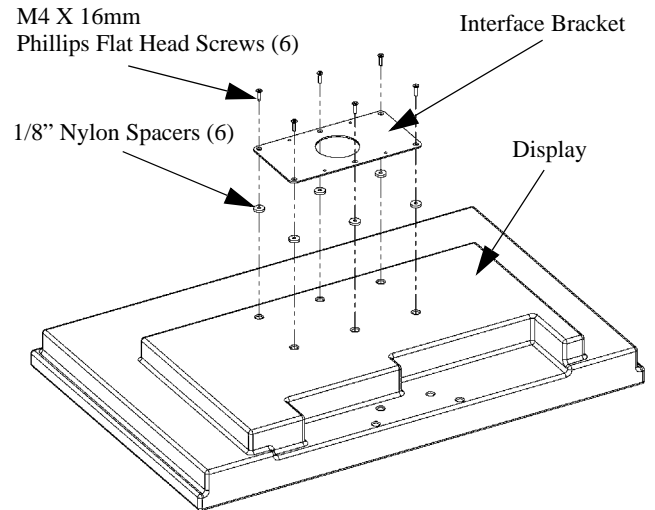

Figure 7. Install Interface Bracket
3. Align six 1/8" nylon spacers over mounting holes in display back (see Figure 7).
5. Install six M4 X 16mm Phillips flat head screws through six mounting holes in interface bracket, spacers and into display (see figure 7).